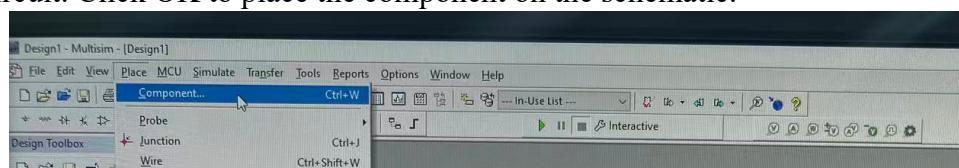
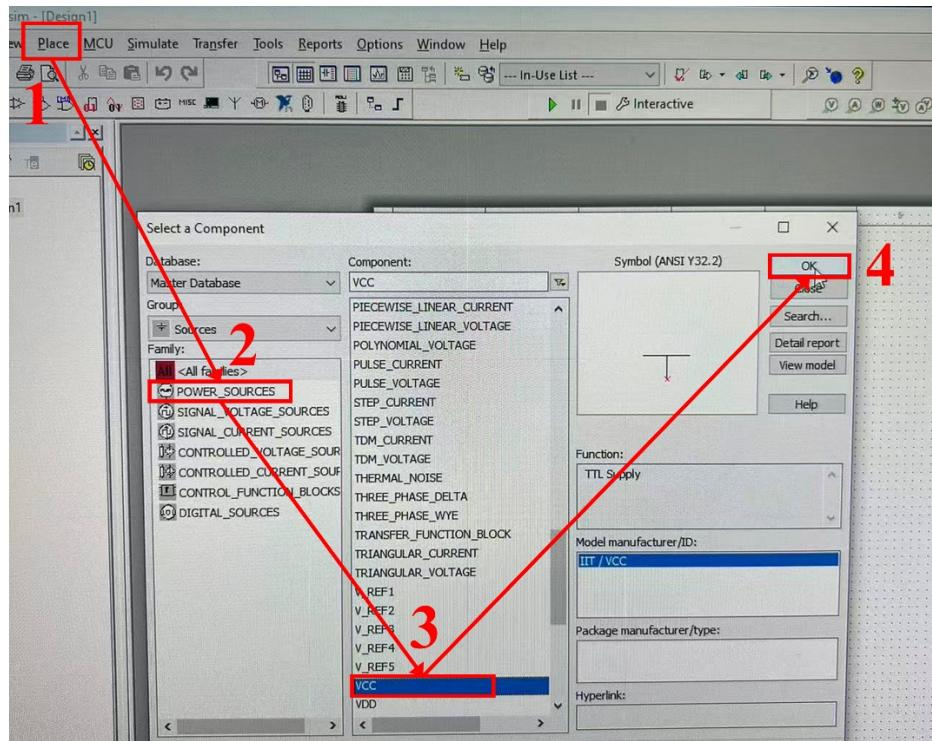

Figure 2. “Place -> Component” dialog box.
Figure 3. “Select a Component” dialog box.
As shown in Figure 2, to place components, click on Place/Components. On the “Select a Component Window” in Figure 3, click Group to select the components needed for the circuit. Click OK to place the component on the schematic.
- Vcc: Sources => POWER_SOURCES => VCC (As shown in Figure 3)